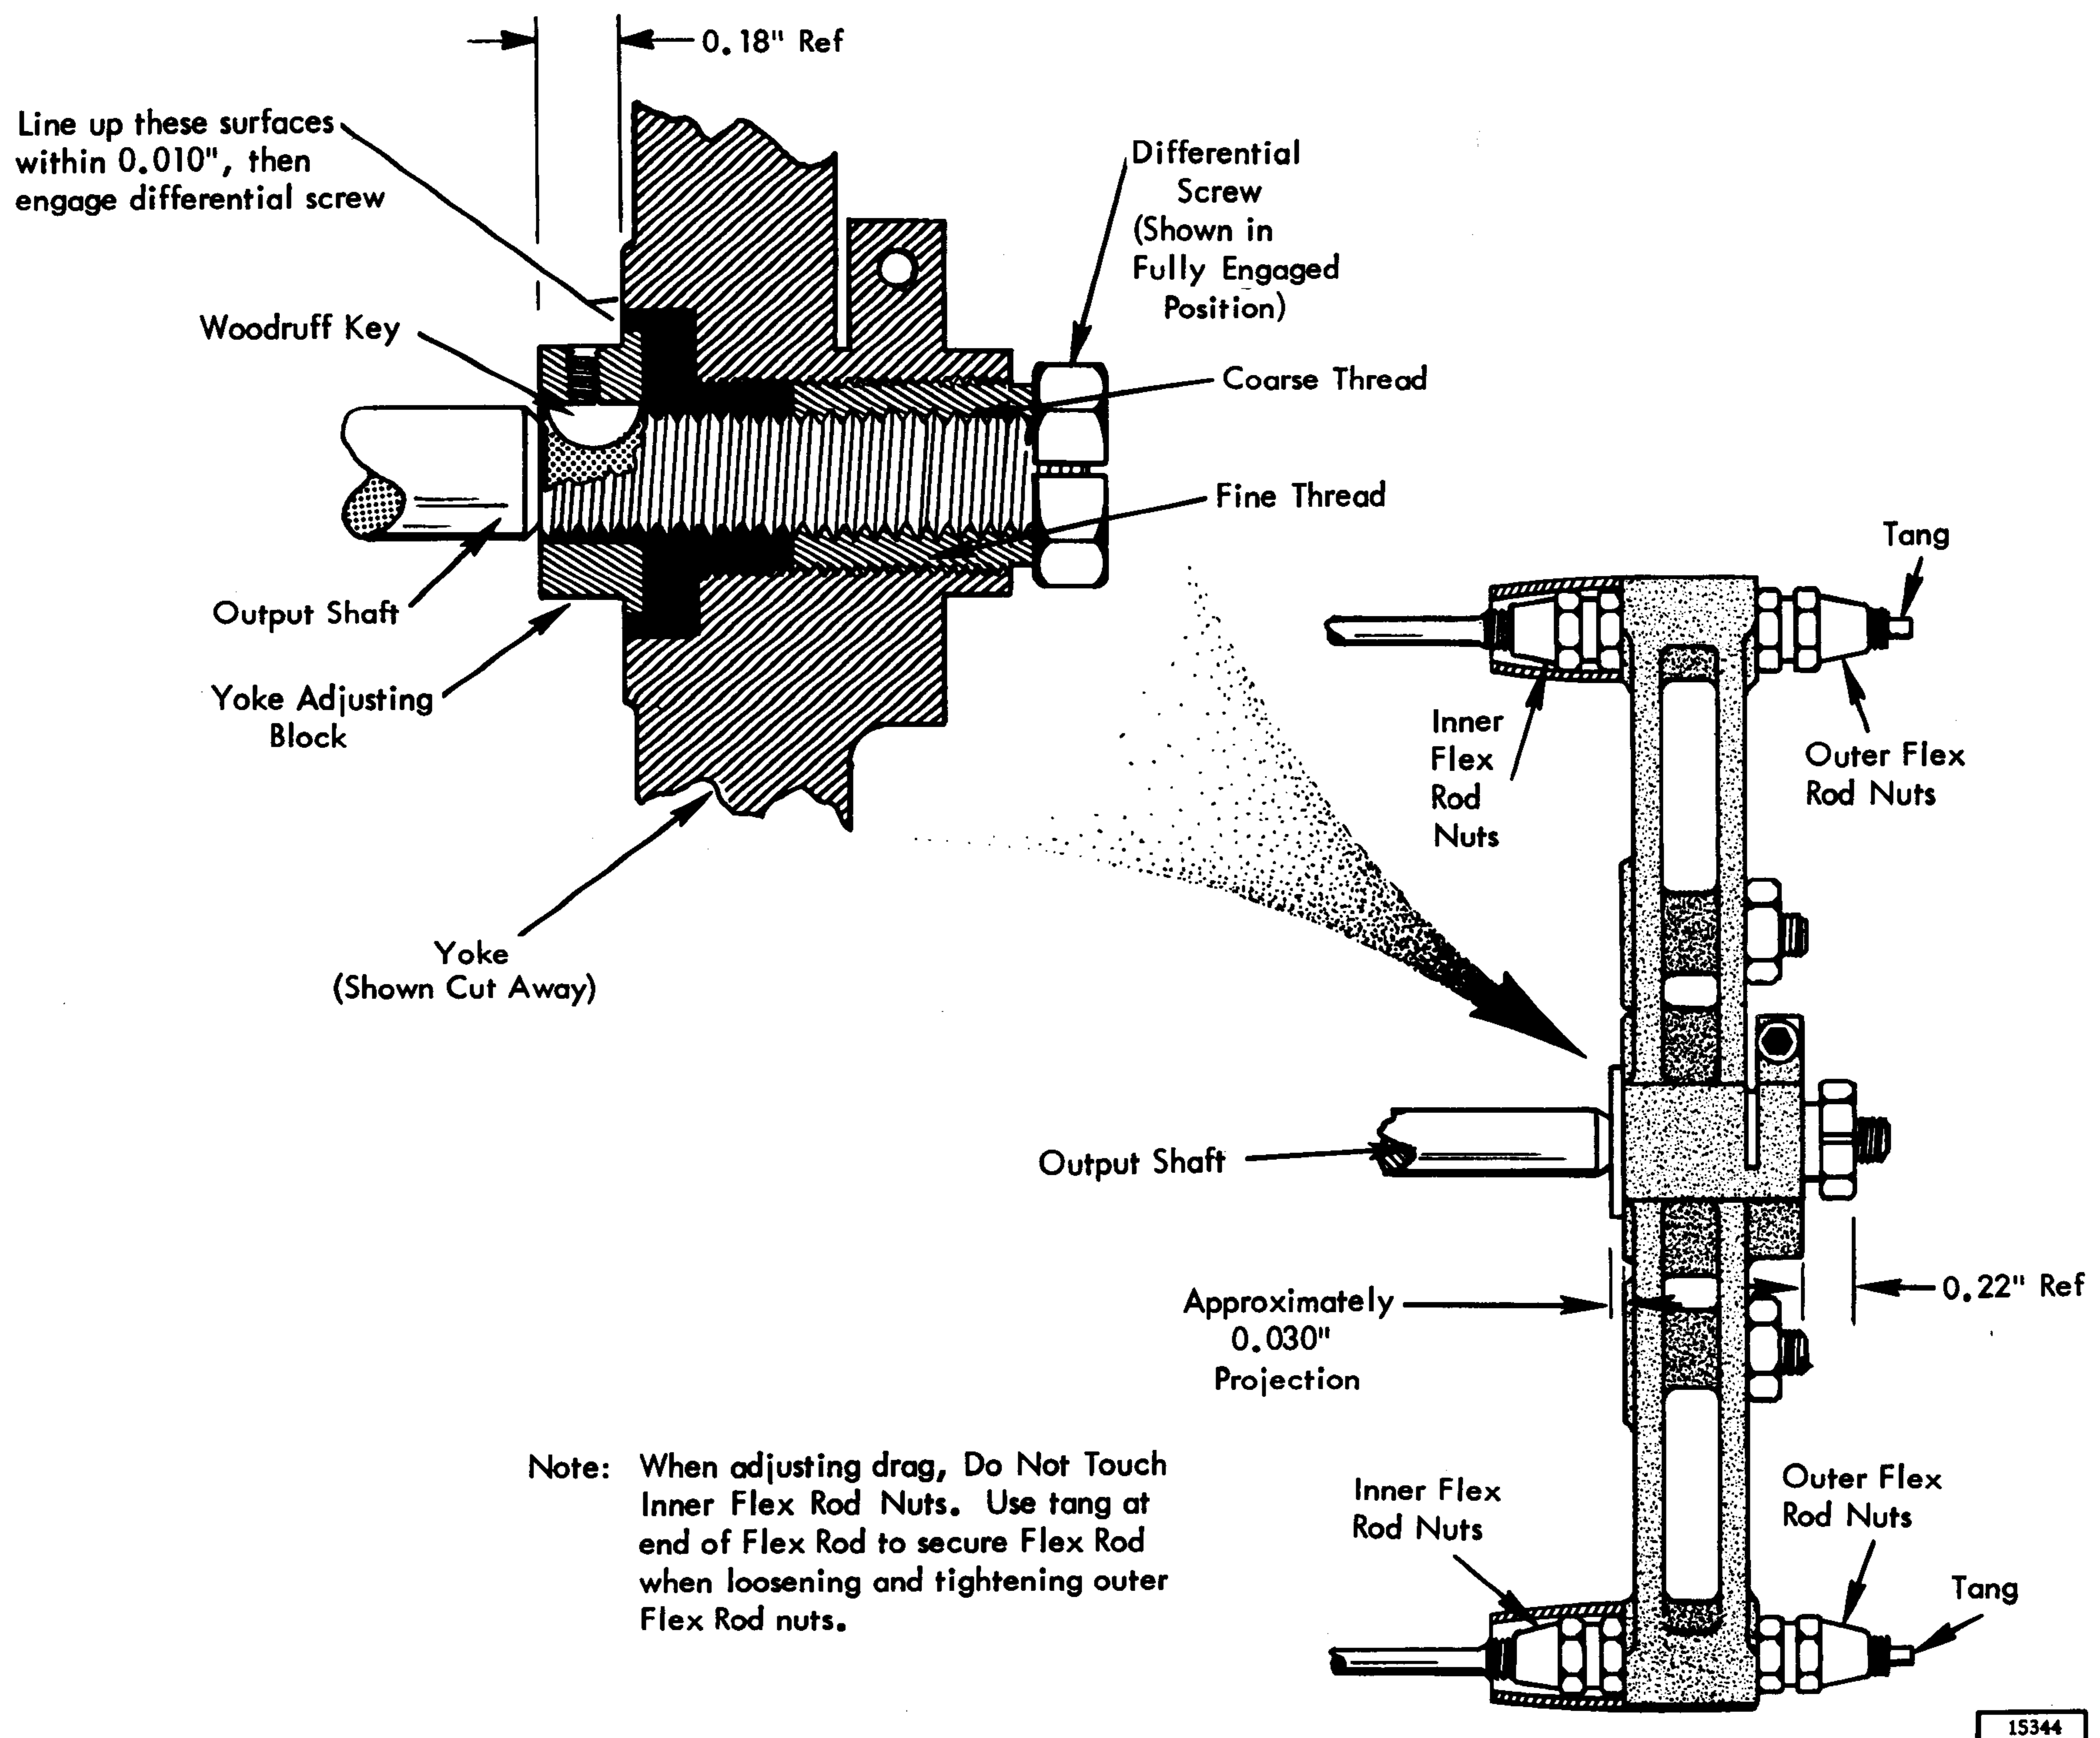

Figure 4-30. Yoke Adjustment
WARNING: When removing and replacing outer flex-rod nuts, holding at end of flex rod so that flex rod does not twist while nuts are being rotated. Do Not disturb setting of inner flex rod nuts. (See Note Section 4.11 and Figure 4-30.)
4.12.2 Yoke Assembly (Figure 4-30)
4. 12. 2. 3 Replacement (Figure 4-30)